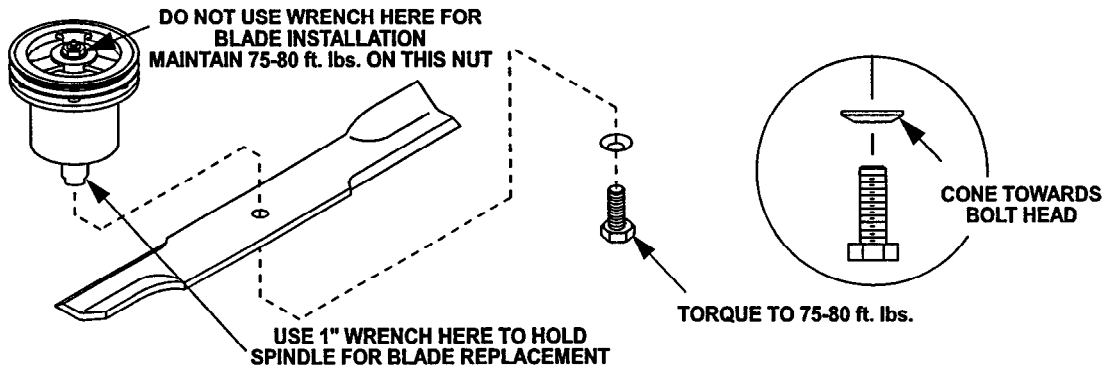

FIG. 13
- g) Re-install the blades (if they were removed) and torque blade bolts to 75-80 ft. lbs. Be sure the spring disk washer cone is installed toward the bolt head (See Figure 13).